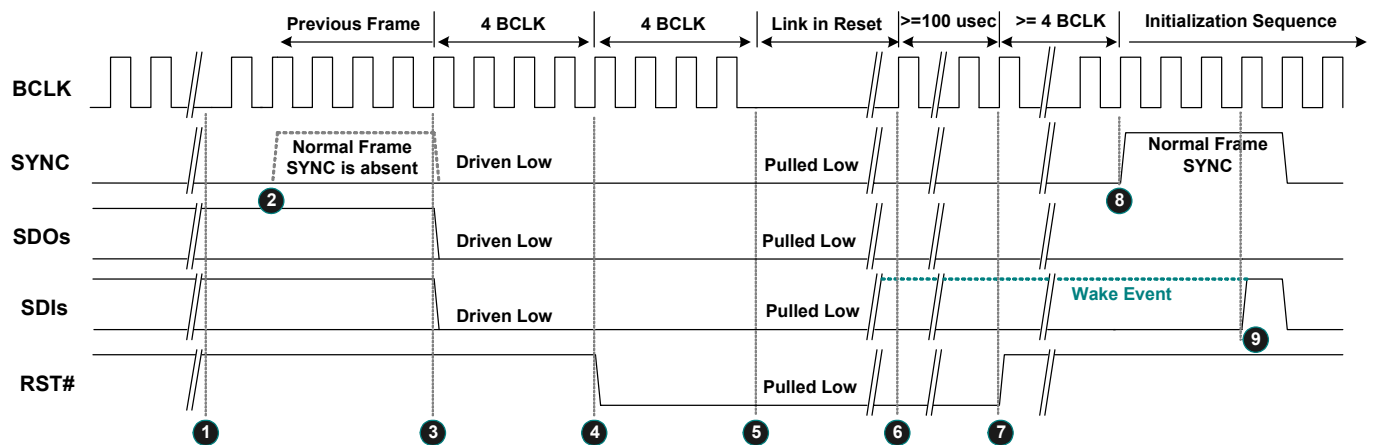

Figure 12. Link Reset Timing
3. Software initiates power management sequences. Figure 12, page 19, shows the 'Link Reset' timing including the 'Enter' sequence (❶~❸) and 'Exit' sequence (❹~❺)